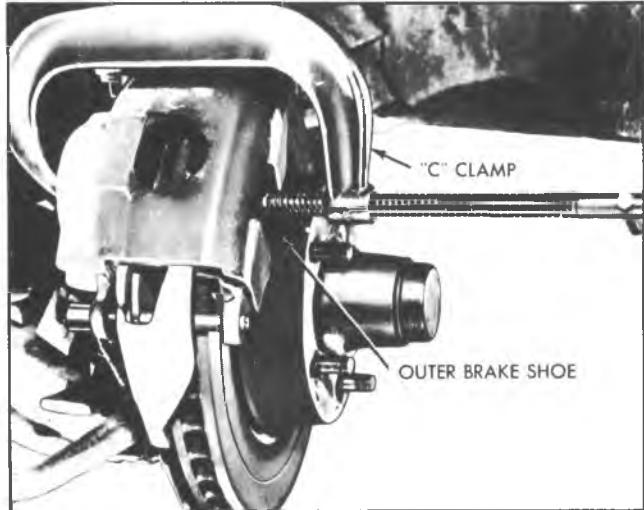

Fig. 54--"C" Clamp for Removal Aid
3. Push the piston back into its bore. This can be accomplished by using a "C" clamp as shown in Figure 54,
3. Push the piston back into its bore. This can be accomplished by using a "C" clamp as shown in Figure 54.